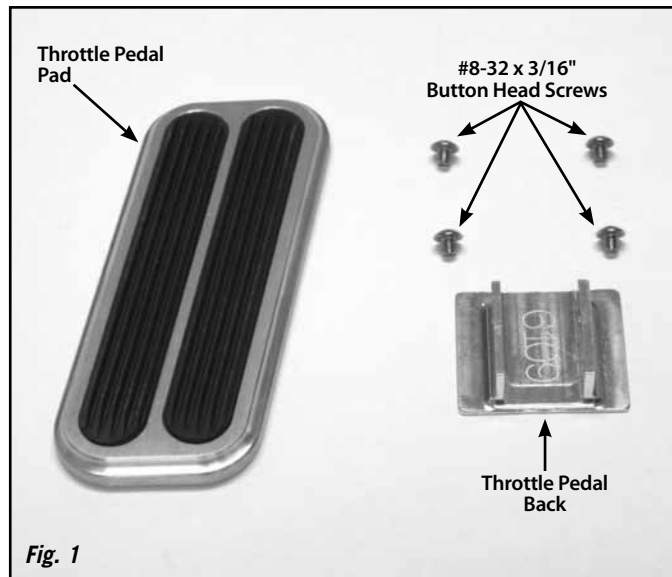
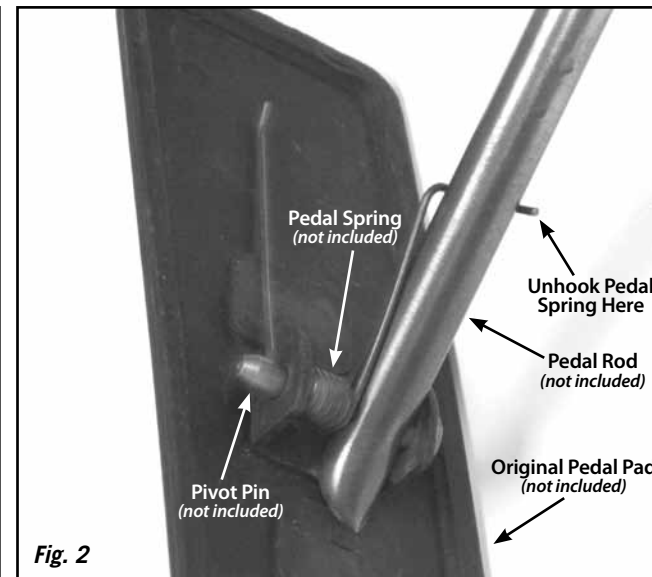

Fig. 1
Fig. 2
Refer to Fig. 1 and Fig. 2 for the component names.
Step 1: Unhook the pedal spring from the pedal rod to relieve the tension. Fig. 2 Remove the original throttle pedal pad from the pedal rod by pulling the pivot pin out of the original pedal pad.